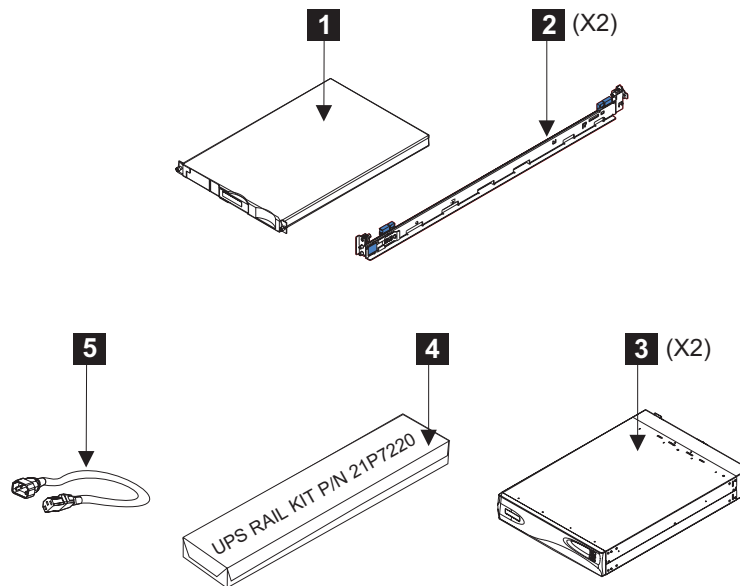

Figure 9. Items for installation in the rack
1. Check all the parts and quantities against the items shown in Figure 9. If any item is missing, contact your marketing representative.